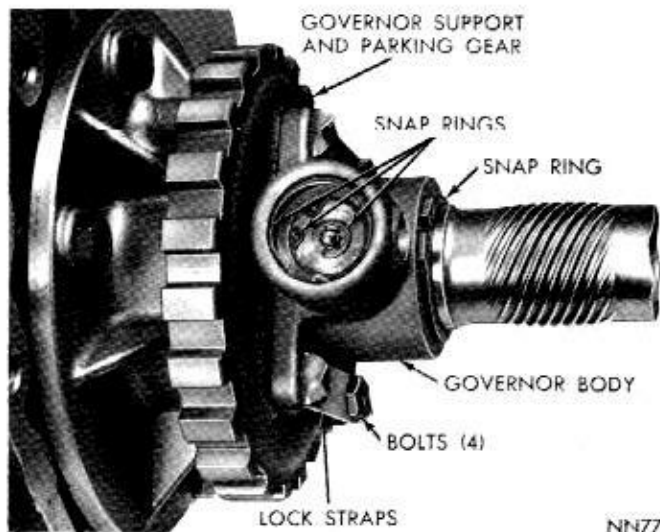
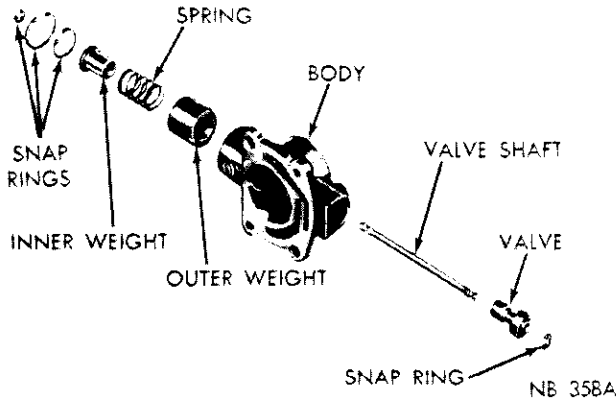

Fig. 21—Governor Shaft and Weight Snap Rings
Fig. 22—Governor Assembly
(1) Remove extension housing and output shaft bearing.
(2) Carefully pry snap ring from weight end of governor valve shaft (Fig. 21). Slide valve and shaft assembly out of governor body.
(3) Remove large snap ring from weight end of governor body, lift out governor weight assembly.
(4) Remove snap ring from inside governor weight, remove inner weight and spring from the outer weight. Figure 22 shows a disassembled view of the governor assembly.
(1) Assemble governor body to the support (if disassembled) and tighten bolts finger tight. Make sure oil passage of governor body aligns with passage in the support.
(2) Position support and governor assembly on the output shaft. Align assembly so valve shaft hole in governor body aligns with hole in the output shaft, then slide assembly into place. Install snap ring behind governor body (Fig. 21). Tighten the body to support bolts to 100 inch-pounds. Bend ends of lock straps over bolt heads.
(3) Assemble governor weights and spring, and secure with snap ring inside of large governor weight. Place weight assembly in governor body and install snap ring.
(4) Place governor valve on the valve shaft, insert assembly into the body and through governor weights. Install valve shaft retaining snap ring. Inspect valve and weight assembly for free movement after installation.
(5) Install output shaft bearing and extension housing.